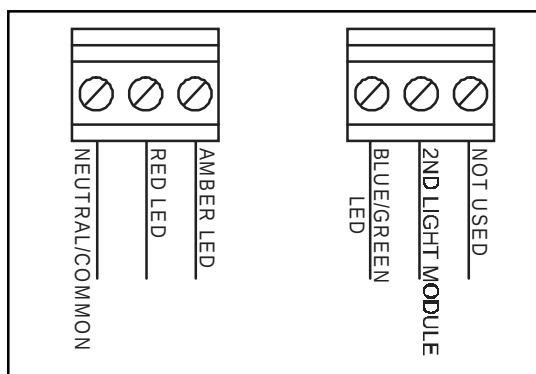

Figure 1. Wiring
- Cat. Series 108ID** Using the supplied mounting gasket as a template, punch the four mounting holes. Punch the wiring clearance hole in the mounting surface to be sufficiently larger than that in the gasket to ensure the wiring insulation is protected from abrasion by the gasket (without interfering with the mounting screw holes), or provide other appropriate wire insulation abrasion protection as needed. Mount the base to the surface using the (2) screws (supplied).
- Cat. Series 108I** Connect field wiring to the terminal block as shown in Figure 1.